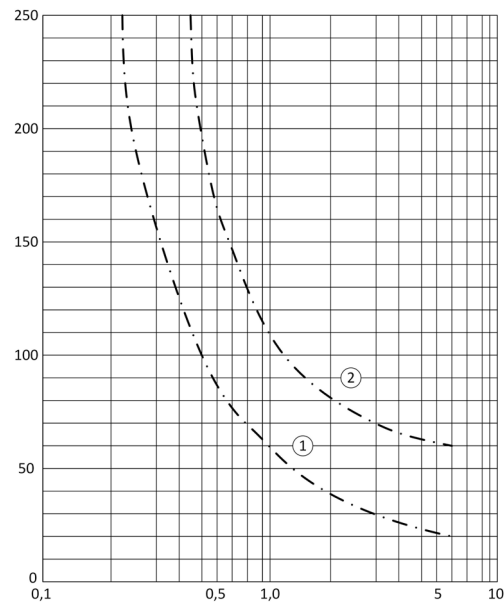
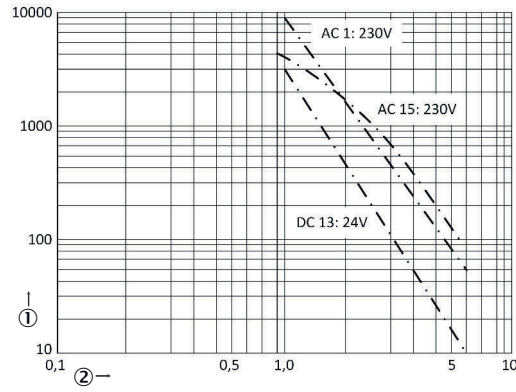

Figure 10: Switch-off delay without continuous arcing
Figure 11: Electrical endurance of contacts 13/14, 23/24, 33/34 and 43/44
3) If service life curve is adhered to, see figure 11, page 26.
Switching current for enabling current paths	10 mA ... 6 A, <a href="#">see figure 10, page 25</a> , <a href="#">see figure 11, page 26</a>
DC switching capacity	0.1 W ... 200 W, <a href="#">see figure 10, page 25</a>